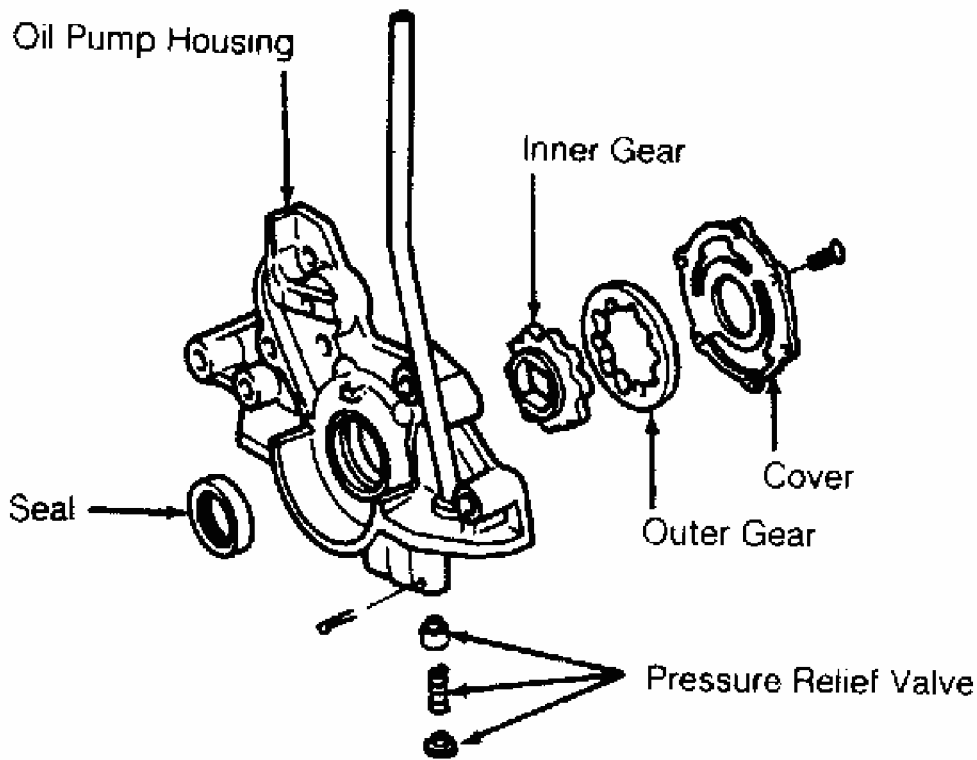

Fig. 15: Exploded View Of Oil Pump
3. Remove oil pan and oil pump pick-up tube. See OIL PAN under REMOVAL & INSTALLATION. Remove oil pump housing assembly. See **Fig. 15**. Carefully clean all gaskets and sealant from mating surfaces without damaging sealing/mating surfaces. Remove all sealant from components and bolts. Check oil pump clearances. Repair or replace pump if necessary. See **OIL PUMP SPECIFICATIONS** table.